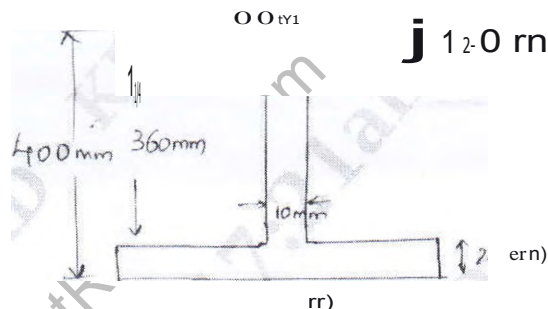

Fig. Q9 (c)
- c. A rolled steel joist of I-section has the dimensions as shown in Fig. Q9 (c). This beam of I-section carries a UDL of 40 kN/m run on a span of 10 m. Calculate the maximum stress produced due to bending.